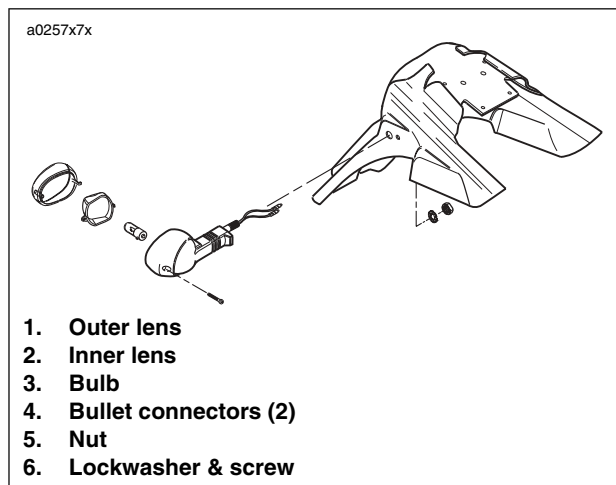

Figure 7-68. Rear Turn Signals
2. See Figure 7-68. Disconnect two bullet connectors on turn signal wires.
- See Figure 7-68. Insert bullet connectors through rear hole in tail lamp bracket. Attach turn signal using lock washer and nut. Tighten nut to 25-28 **in-lbs** (2.8-3.2 Nm).